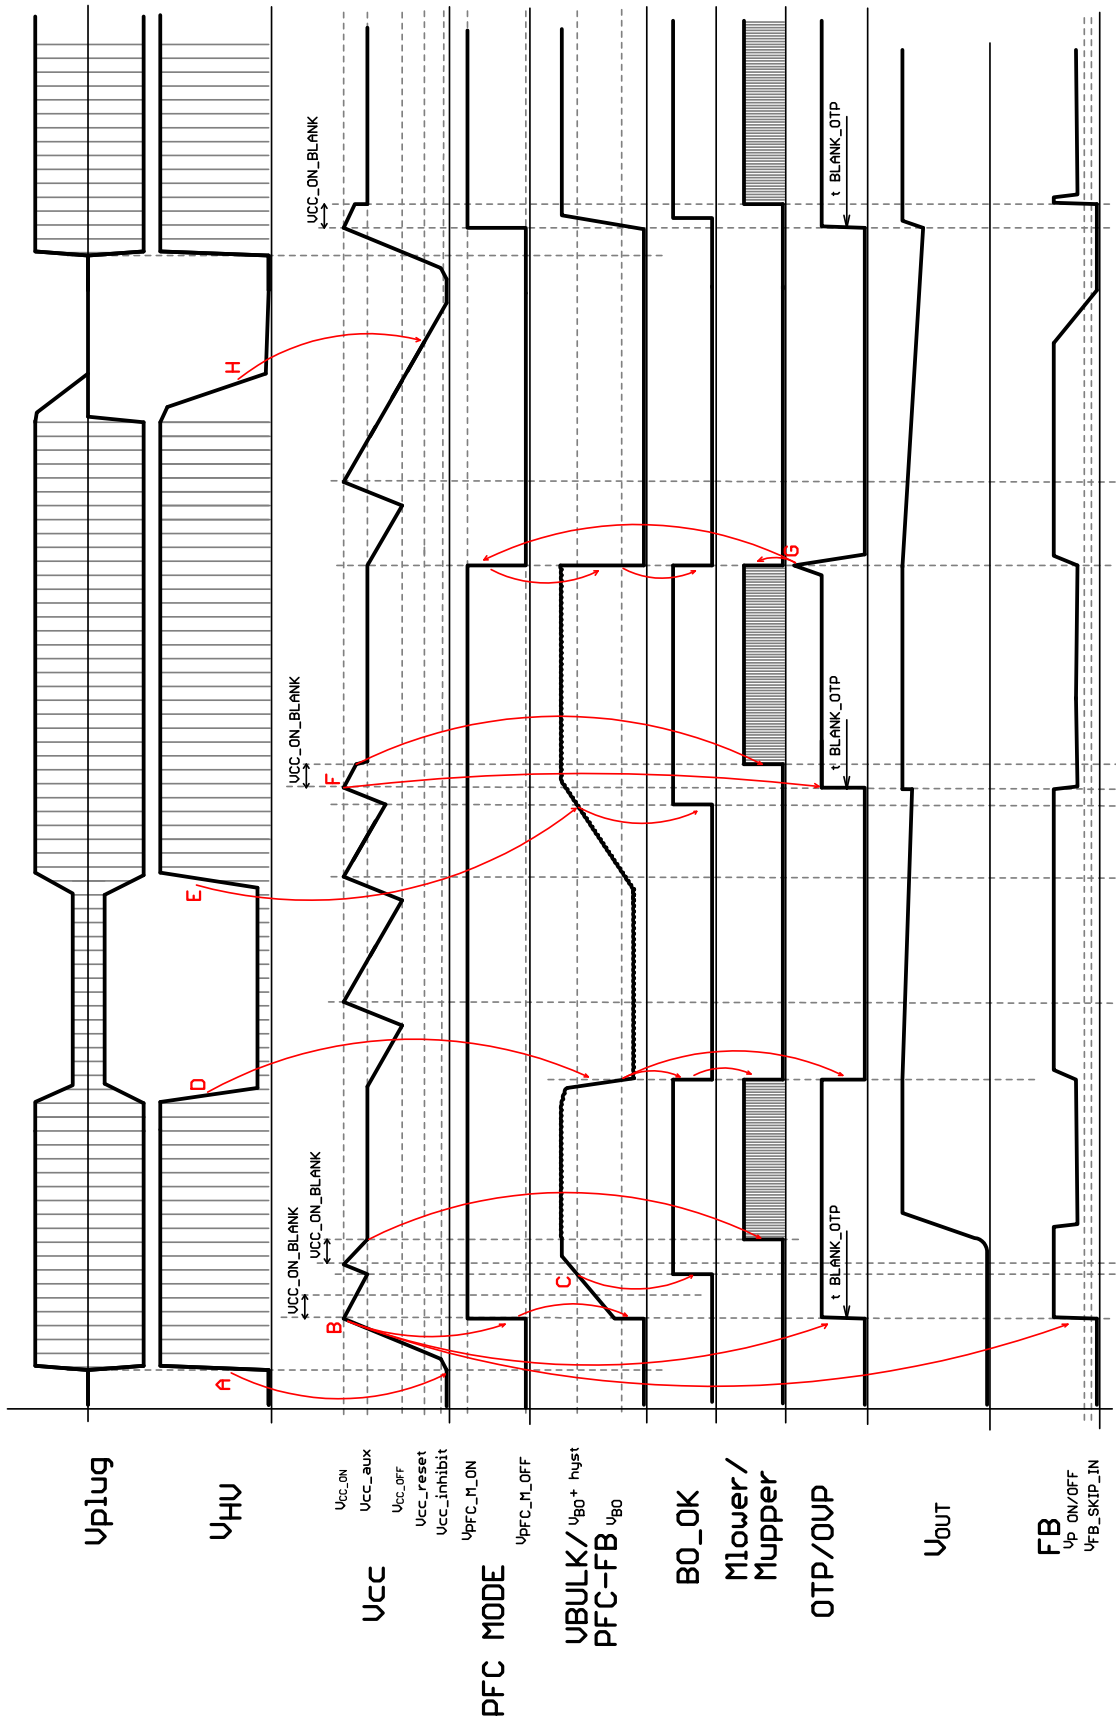
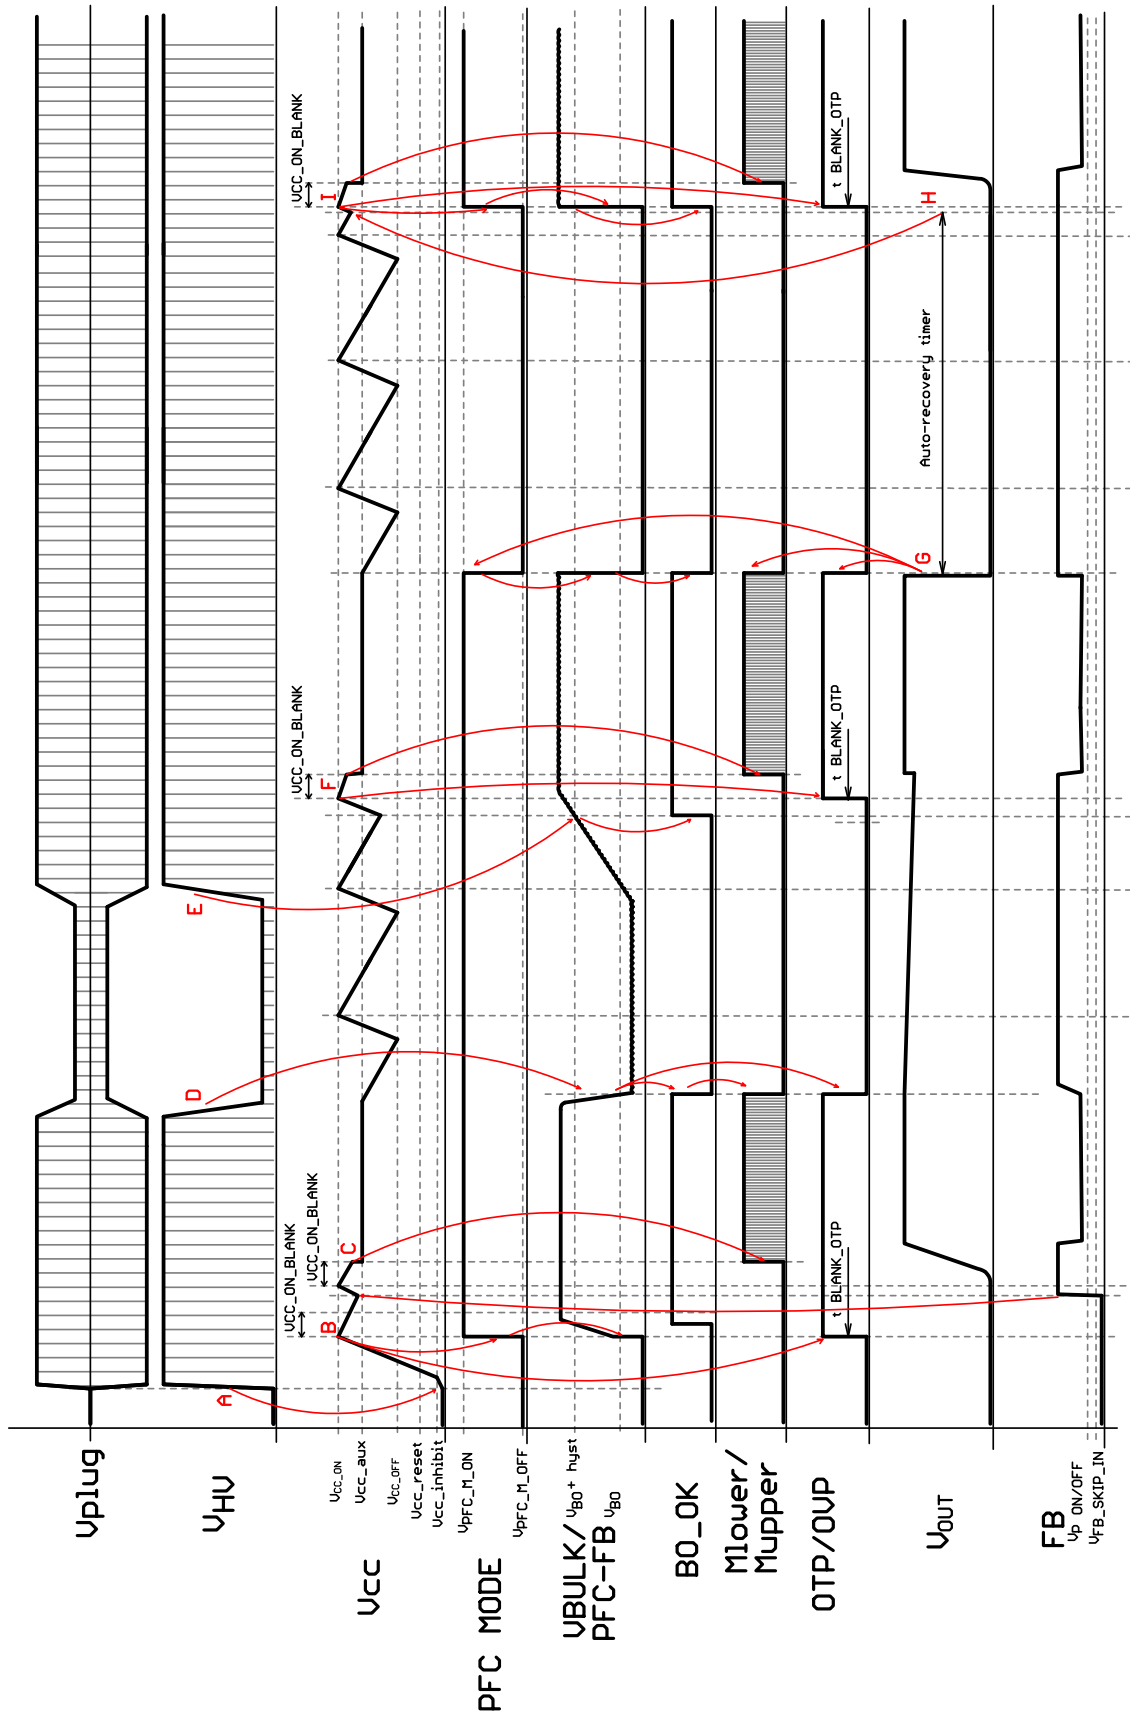

Figure 23. Application Start, Brown-out Off and Restart, OVP/OTP Latch and then Restart
Figure 24. Application Start, Brown-out Off and Restart, Output Short Fault with Auto-recovery Restart
Please refer to Figure 23 and Figure 24 for an illustration of the NCP13992 FB fault detection block.
1. Application start, Brown-out off and restart, OVP/OTP latch and then restart – Figure 23
2. Application start, Brown-out off and restart, output short fault with auto-recovery restart – Figure 24
Operating waveforms descriptions for this figure is similar to one for Figure 23 from point **A** till point **G** – with one difference. The skip mode operation (FB < V_{FB_SKIP_IN}) blocks the IC startup after first V_{CC_ON} event instead of BO_fault.